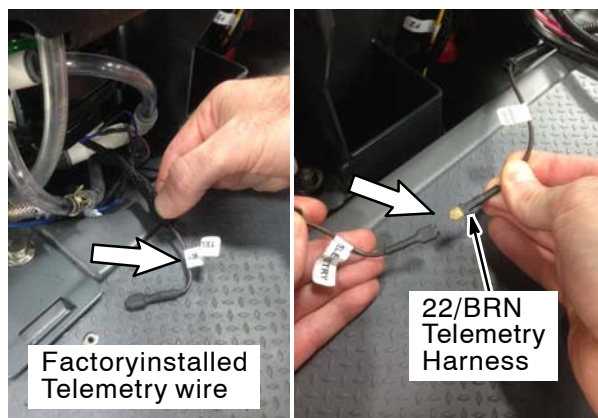

Fig. 11
12. **Machines equipped with ec-H2O NanoClean system:** Locate the factory installed brown wire labeled “Telemetry” coming from the ec-H2O module harness. Connect the telemetry harness (16) wire 22/BRN into the factory installed wire. (Fig. 11)